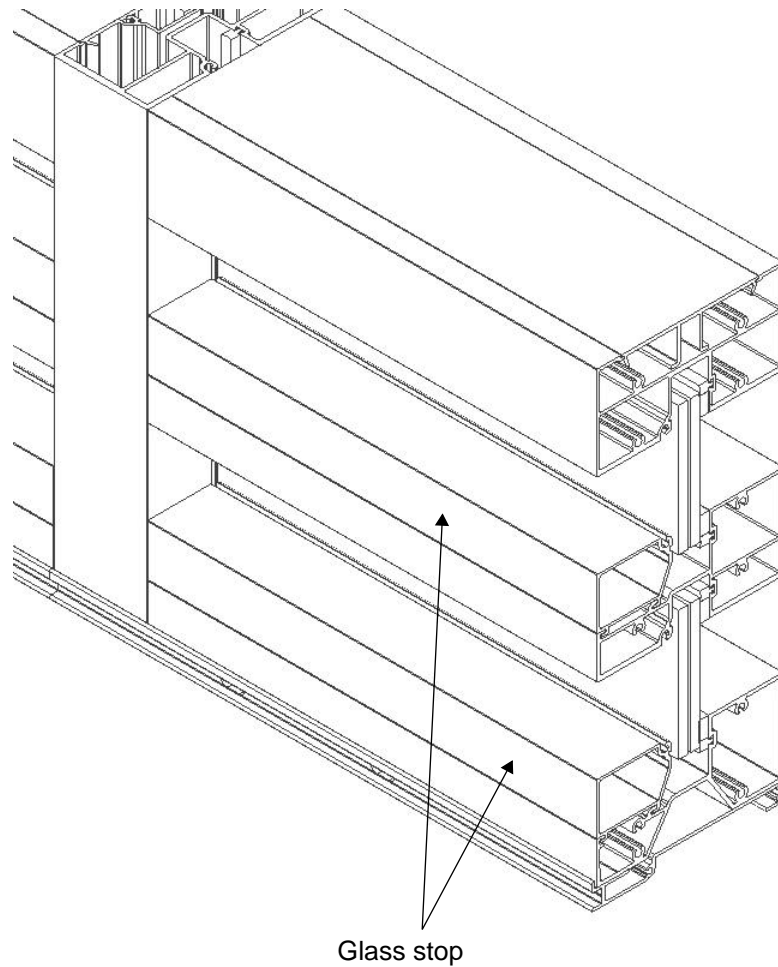

Figure 14: Install the glass stop into the horizontals after the glass has set.
- Install the glass stop into the horizontals after the glass has set, as shown in Figure 14.